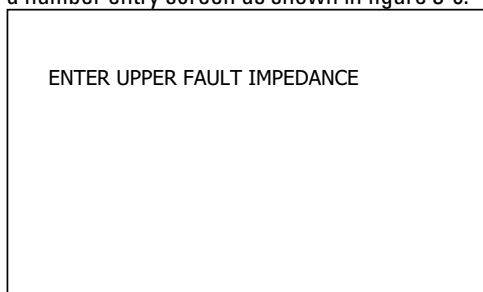

Figure 3-6
Step 2 – Select MAXIMUM OHMS by moving the cursor to that line and press any \blacktriangleright key. This will open a number entry screen as shown in figure 3-6.